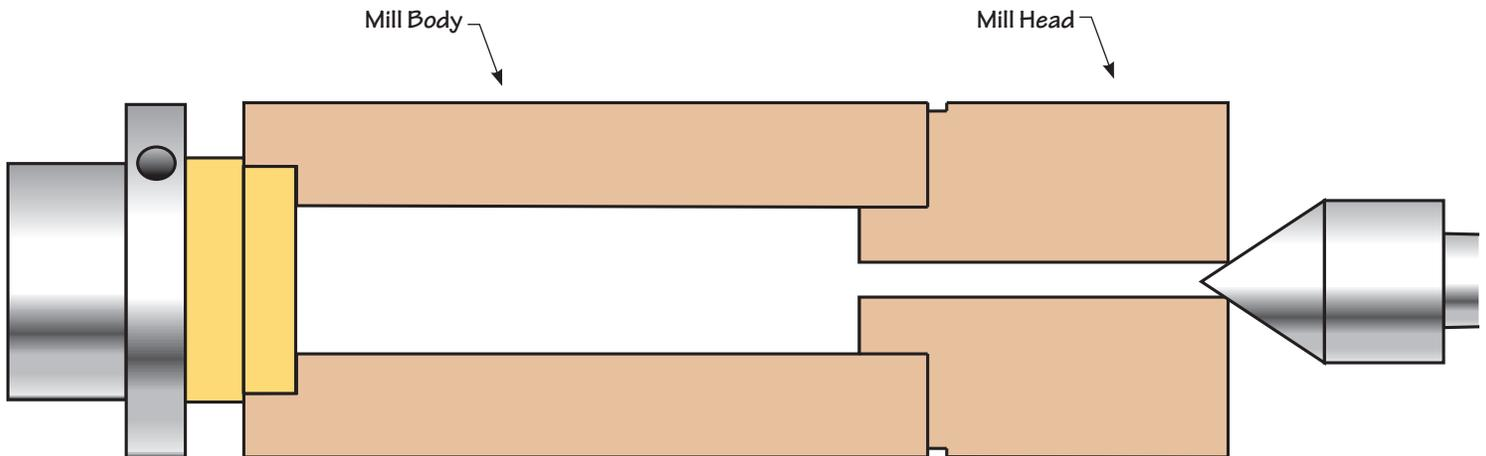

Figure. 3
3. Put the Mill Head spigot into the Mill Body and mount the Mill onto the drive tenon and bring the revolving center into the 9/32" dia. hole for support. (See Figure. 3)